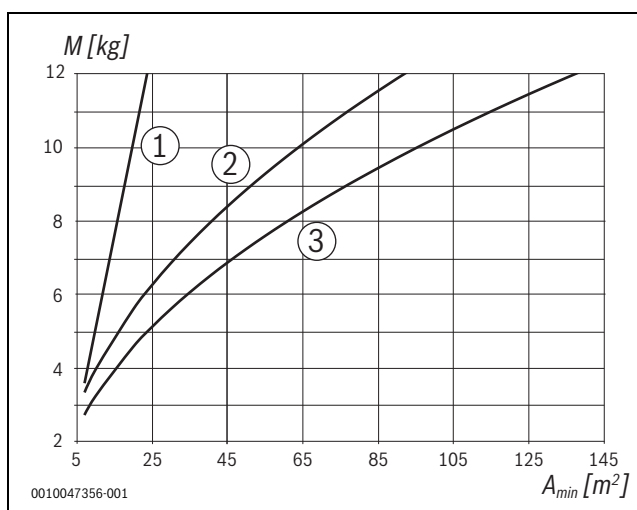

Fig. 44
- Minimum room area must meet the corresponding values in Fig. 44.